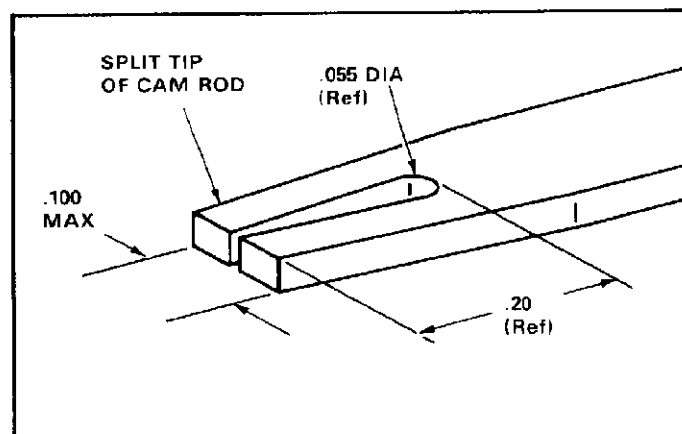

Fig. 11
If the connector has a board lock, the lock must be removed before cleaning. Close the contacts, pull the ram rod out of the connector, and remove the lock. Check the configuration of the split tip before replacing the ram rod. See Figure 11.
*Custom cam rods can be made from AMP Cam Rod Material 531004-1. The tip must be split and tapered inward to prevent interference during insertion and extraction of the cam rod. See Figure 11.*
*Always check tip of cam rod before extraction and insertion to be sure it is not deformed and will not damage the components. See Figure 11.*